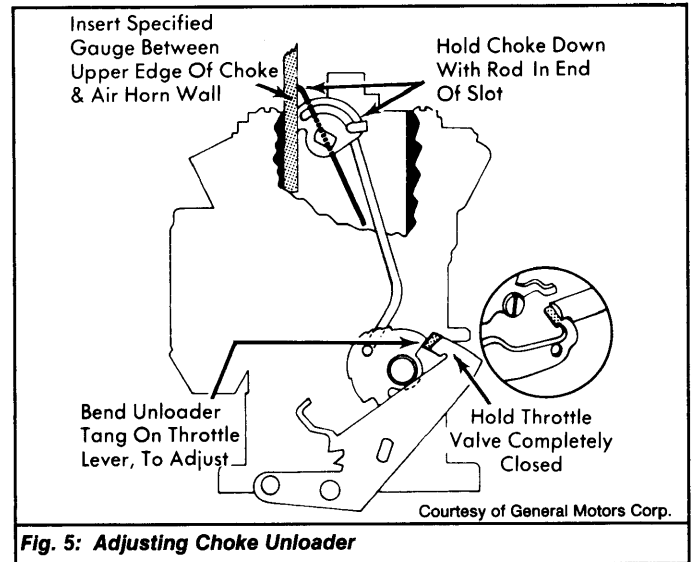

Fig. 5: Adjusting Choke Unloader
1) Open throttle valve wide open. Apply light closing pressure to choke valve. Measure specified clearance between lower edge of choke valve and air horn wall. See Fig. 5.